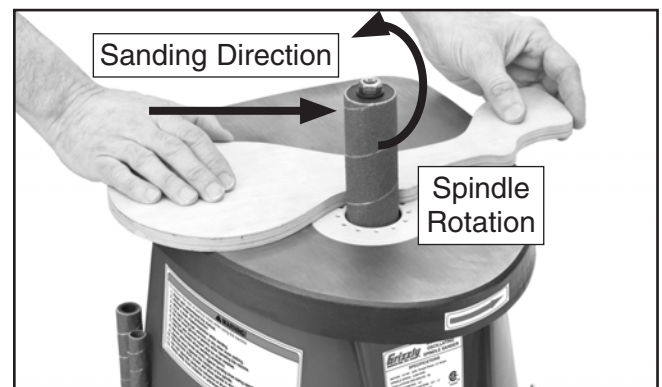

Figure 14. Sanding workpiece.
2. Using both hands to maintain control of the workpiece, guide the workpiece against the rotation of the spindle, as shown in **Figure 14**. **DO NOT** force the workpiece against the sanding sleeve. Allow the machine to do the work.